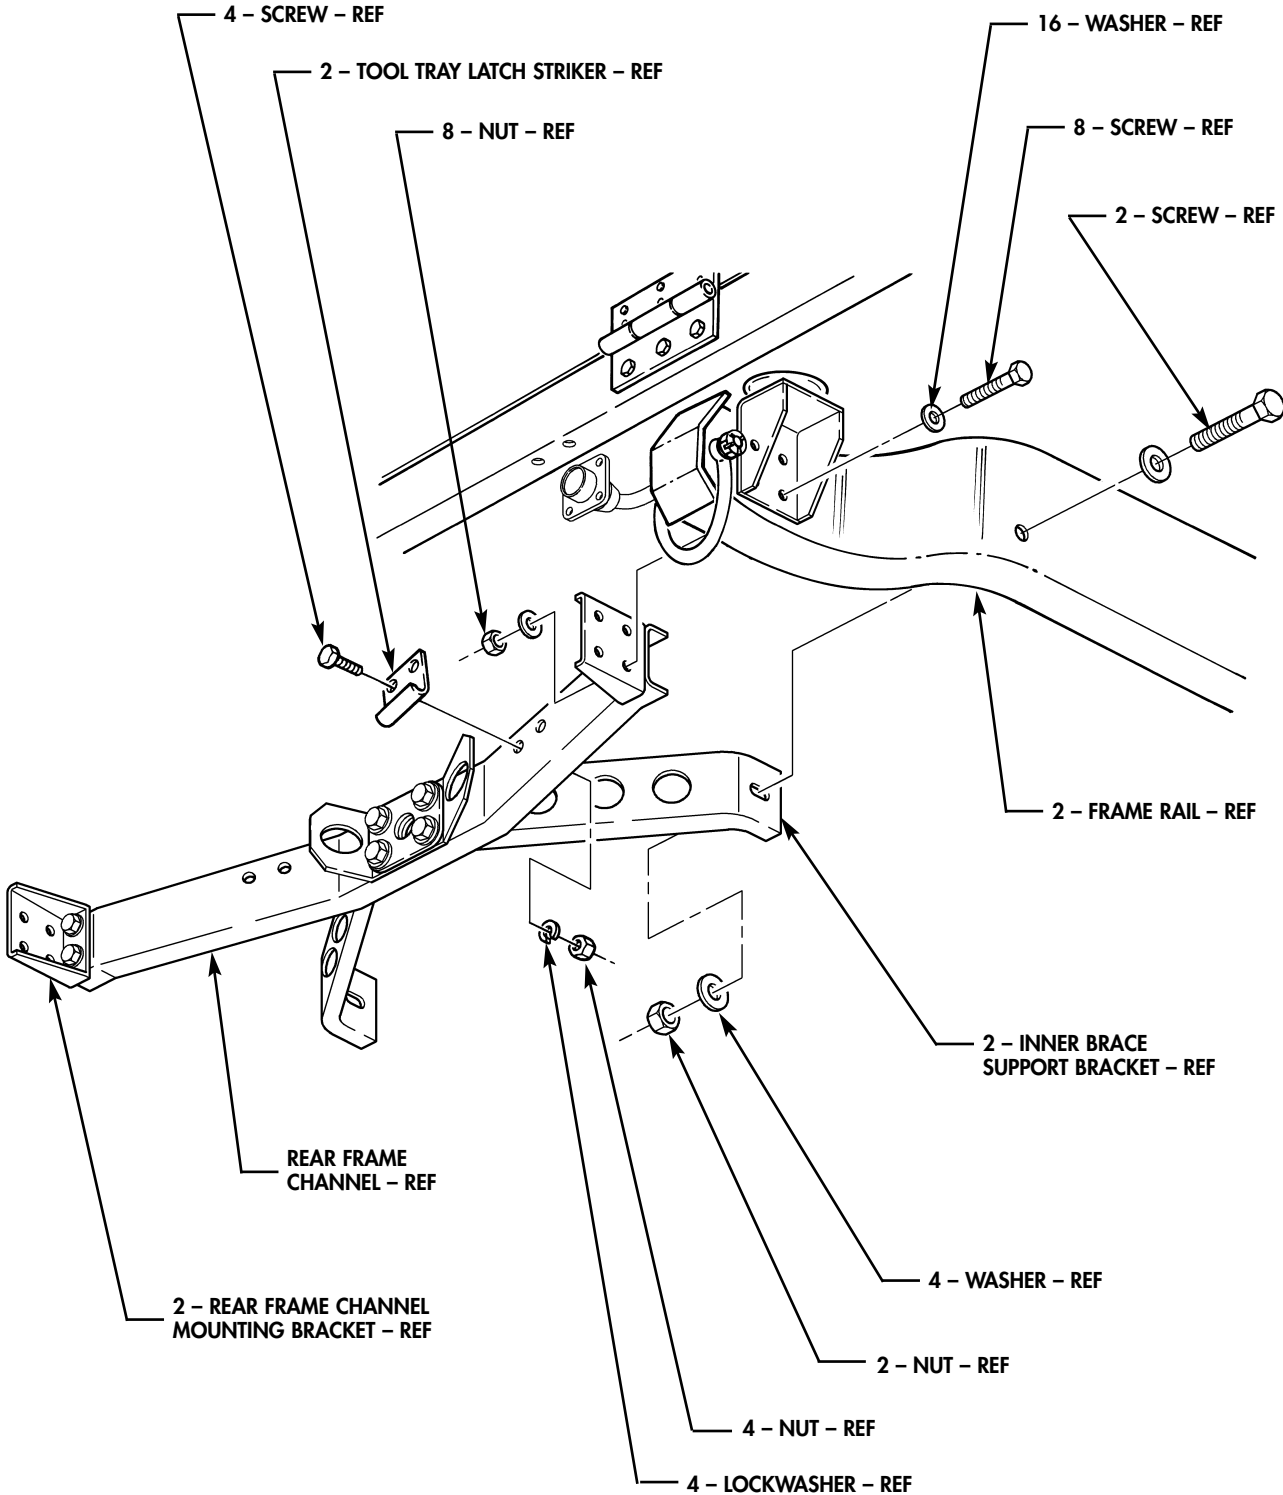

FIGURE 4
- (9) Remove eight nuts, sixteen washers, and eight screws from two rear frame channel mounting brackets and left and right frame rails as shown in figure 4.
- (10) Remove two nuts, four washers, two screws, inner brace support brackets, and rear frame channel from left and right frame rails as shown in figure 4.
- (11) Remove four nuts, lockwashers, screws, and two tool tray latch strikers from rear frame channel as shown in figure 4. Discard lockwashers.